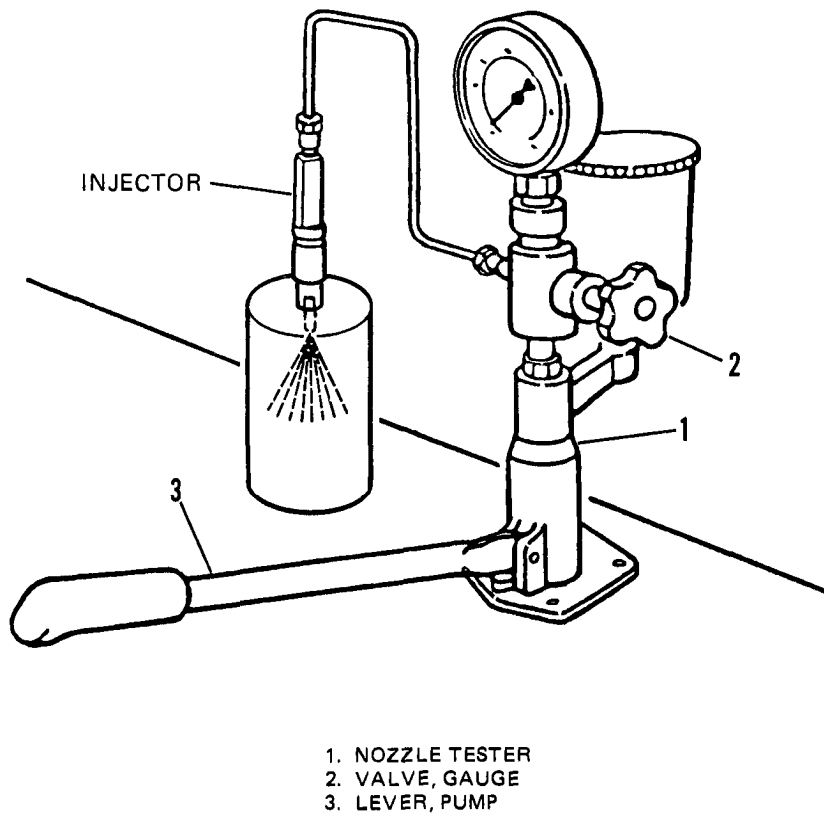

Figure 6-5. Fuel Injector Testing.
- (1) Connect fuel injector to nozzle tester (1, Figure 6-5), (Bosch P/N 0 681 143 014), refer to Table 2-1.